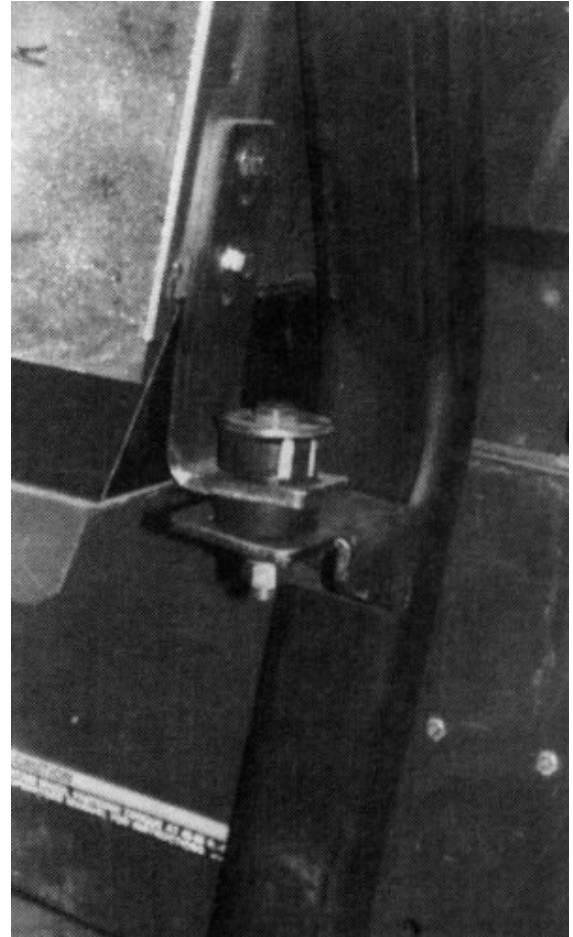

Figure 2
3. Remove the top mounting bolt from the roll bar and install the short mounting bracket as shown in Figure 2.